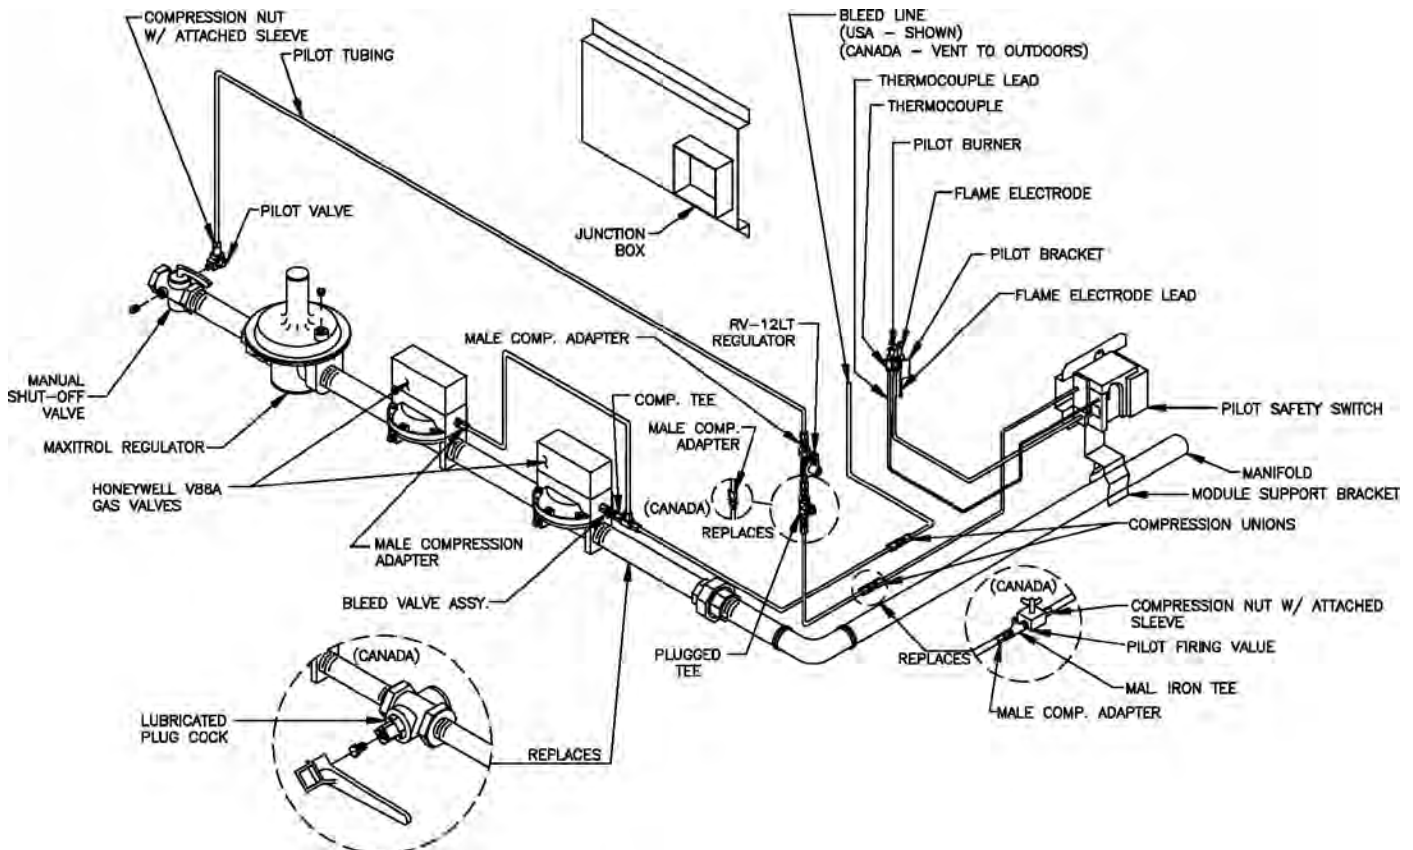

FIG. 32
Using 1/4" OD Aluminum Tubing, connect the pilot valve installed in the manual shut-off valve in the gas train, to the inlet of the RV-12LT regulator (Packed in Gas Train Carton). Regulator should be above Gas Train and near front of boiler, see Fig. 32. Install 1/8" tee into outlet of regulator (USA boilers only) and, using 1/4" OD tubing, connect outlet of tee to "IN" connection on pilotstat, see Fig. 32. Connect the Q309 thermocouple to pilot safety switch. Using 1/4" OD aluminum tubing, connect the outlet of the pilotstat to the tubing or fittings connected to the pilot burner, see Fig. 32.
2. INSTALLATION OF BLEED PIPING – Using 1/4" OD aluminum tubing, install a bleed line on both diaphragm valves, connect together, see Fig. 25 or 26 and run tubing to bleed line protruding from inside base, see Fig. 32. On boiler installed in Canada, run bleed line to outdoors.